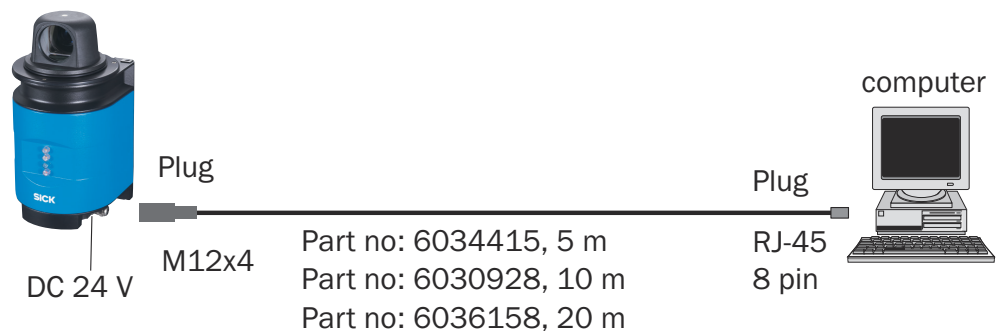

Figure 21: Ethernet connection
- ▶ Connect the computer to the device via Ethernet cable, see figure 21, page 41 or